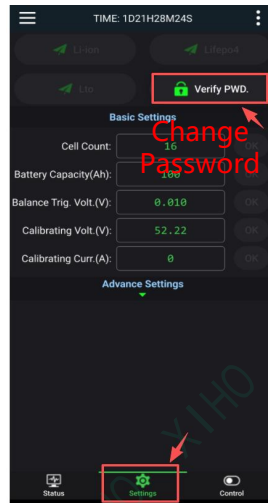

Figure 3 Change the
c). The authorization password for the protection board is '654321'. After successfully connecting the protection board to the mobile app, please change the connection password immediately to prevent unauthorized access. Unauthorized modification of the power circuit on the protection board is strictly prohibited, as it may lead to uneven current distribution, overcurrent, and potentially cause the protection board to burn out, as shown in Figure 3. If you enter an incorrect password, please contact the sales support team promptly;
保护板的授权密码为 '654321'。手机 APP 成功连接保护板后，请立即更改连接密码，以防他人未经授权进行连接。严禁擅自改动保护板的电源电路，否则可能导致电流分配不均、过流，进而造成保护板烧毁，如图3所示。如密码错误时，请及时与销售人员联系；